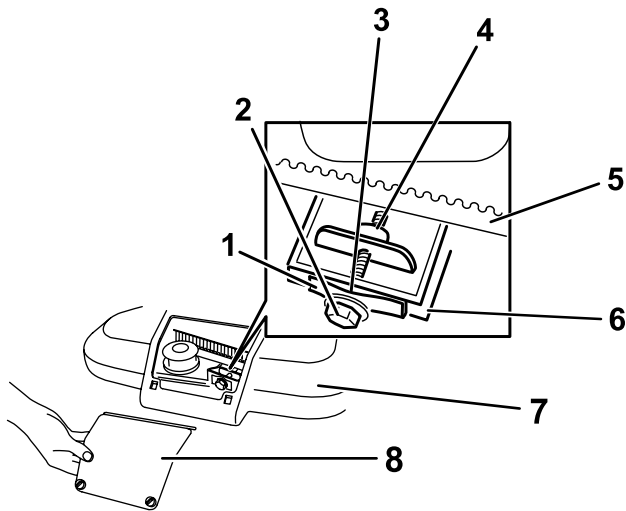

Figure 36
1. Loosen the 2 quarter-turn fasteners on the belt-cover-access panel and remove the panel (Figure 36).
Note: If there is a visible gap between the gauge and the spring, tighten the adjusting bolt and the nut until the paper barely slides freely in and out of the gap (Figure 36).